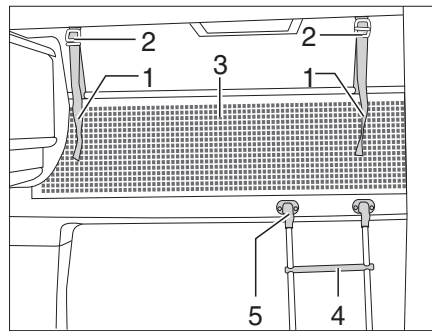

Fig. 156 Overcab bed
Always use the access ladder (Fig. 156,4) provided as standard to access the overcab bed.
- Attach the ladder with the rails to the holder (Fig. 156,5) on the alcove panel.
The safety net (Fig. 156,3) is stored as standard between the mattress and slatted frame. Only use the safety net if persons are already in the alcove.
- Fasten the retaining straps (Fig. 156,1) to the holders on the ceiling (Fig. 156,2).
Setting up: ■ Fasten the retaining straps (Fig. 156,1) to the holders on the ceiling (Fig. 156,2).